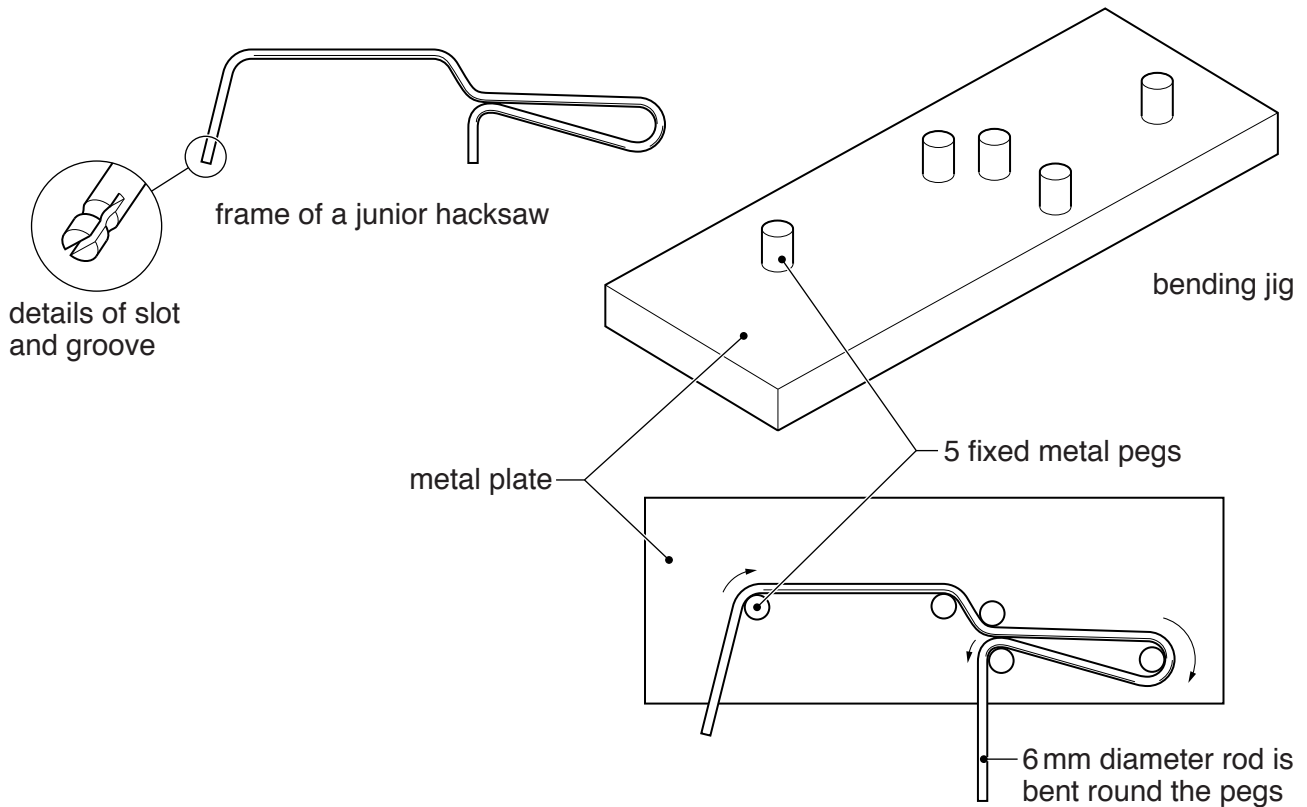

Fig. 5
- 4 Fig. 5 shows the frame of a junior hacksaw and a jig which is to be used to bend a length of 6 mm diameter mild steel rod to the shape required for the frame.